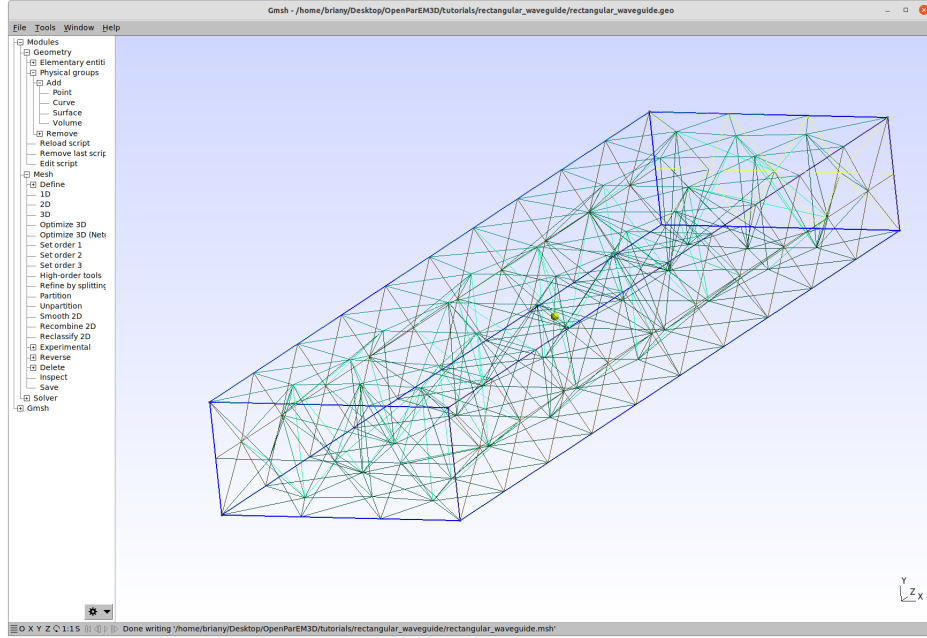

Figure 8: Screenshot of the meshed straight section of rectangular waveguide.
- To mesh the geometry, in the options tree click `Mesh→3D`. A screenshot of the mesh is shown in Fig. 8.